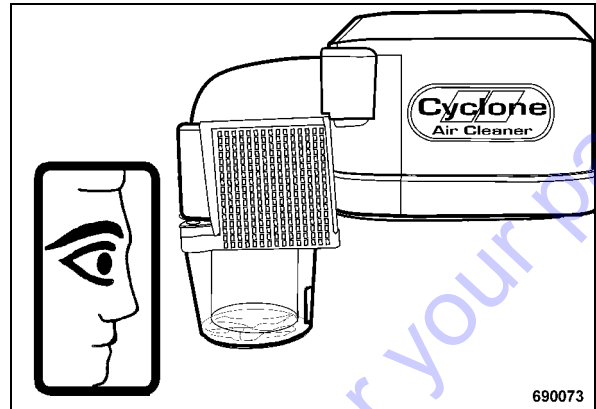

Fig. 45
- Check the cyclone on the air filter cover for dirt or blockage, remove and clean if necessary (Fig. 45).